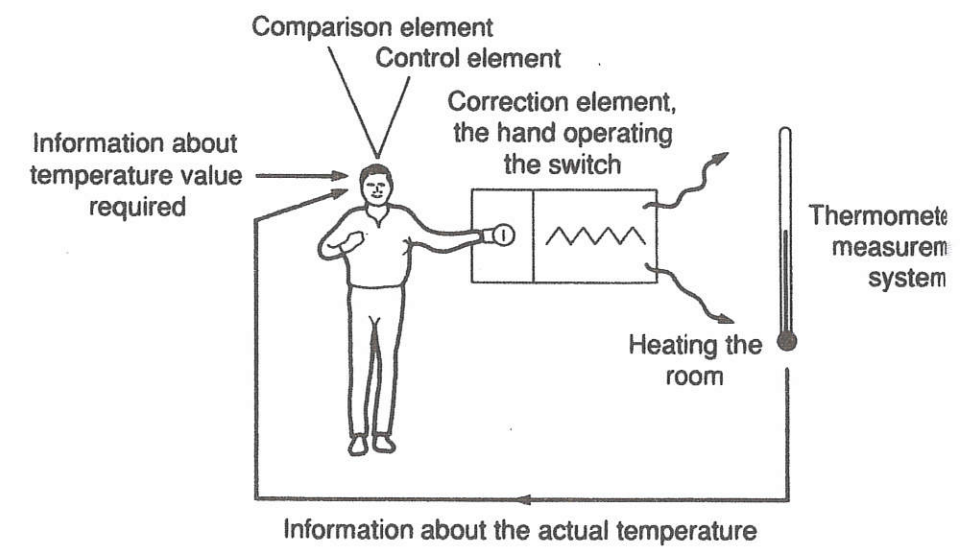

Figure 6.0/ Rajah 6.0
- (b) Explain the following component based on Figure 6.0: